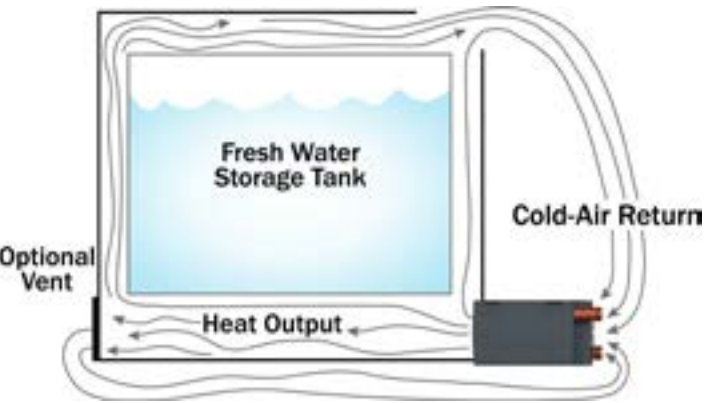

Figure 20
- If a heat exchanger is kept in the fresh water storage bay, then the last heat exchanger in the coolant loop should be used. See Figure 20.